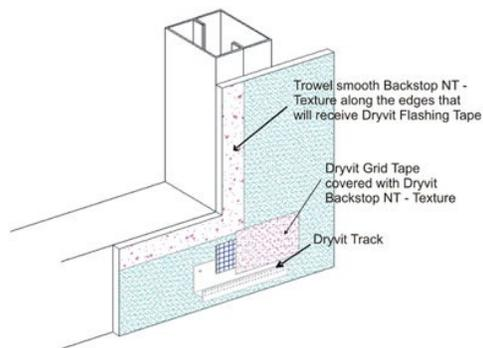

Fig. 18
- 4) While the Backstop NT - Texture is still wet, using a trowel or spatula, smooth out the Backstop NT - Texture around all window and door perimeters and other areas that will later receive Dryvit Flashing Tape - Figure 18.